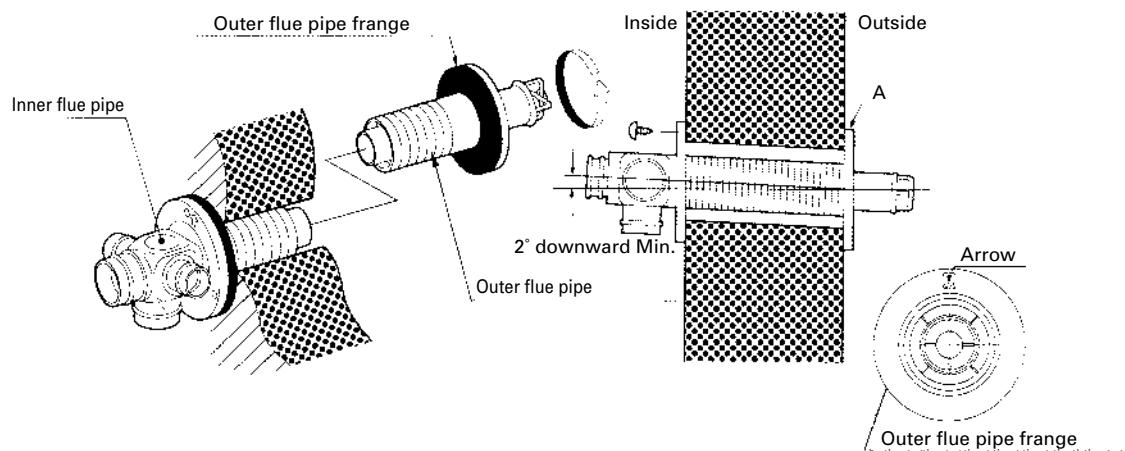

Fig. 9
- c. From outside, insert the outer flue pipe through the hole. Secure the outer flue pipe to the wall by turning it clockwise. This locks the two halves together (See Fig. 9).
Make sure to secure the outer flue well. (A-part shown in Fig. 9)